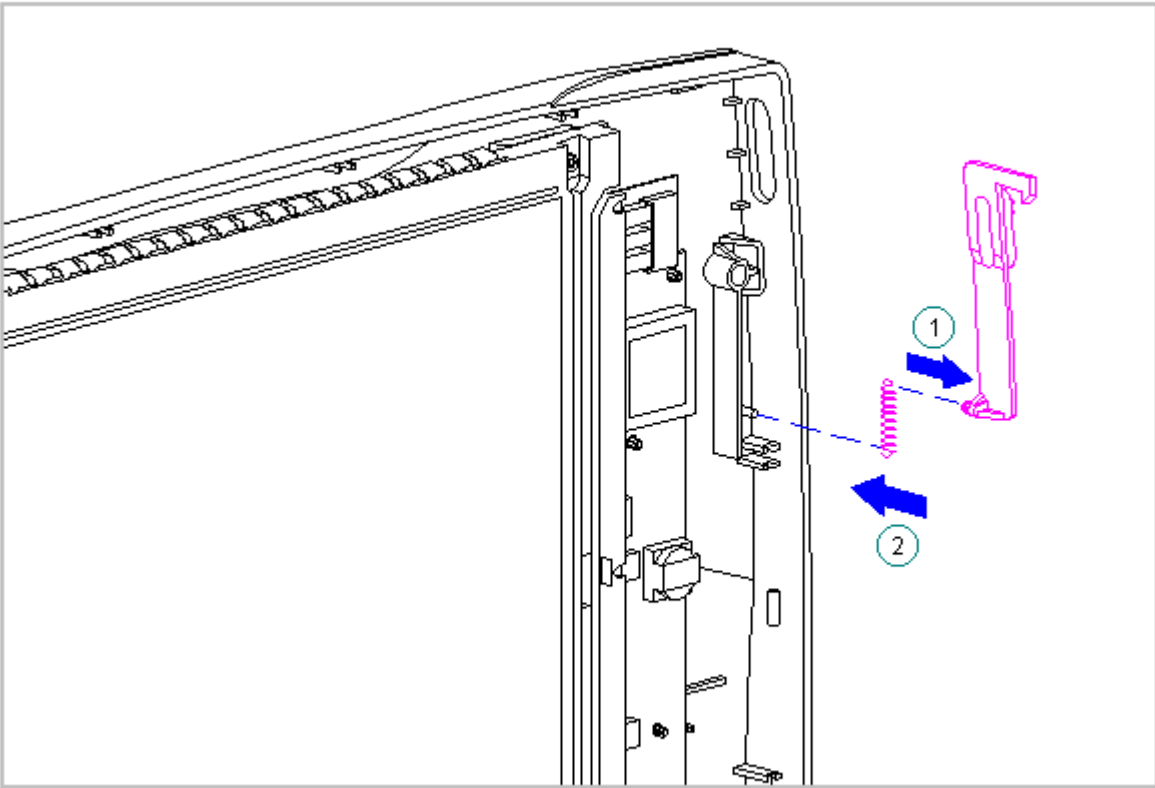

Figure 3-82. Replacing the Display Latch Spring (Models 400 and 410)
1. Hook the display latch spring on to the display latch [1] and place the display latch spring over the post in the display enclosure [2] (Figure 3-82).